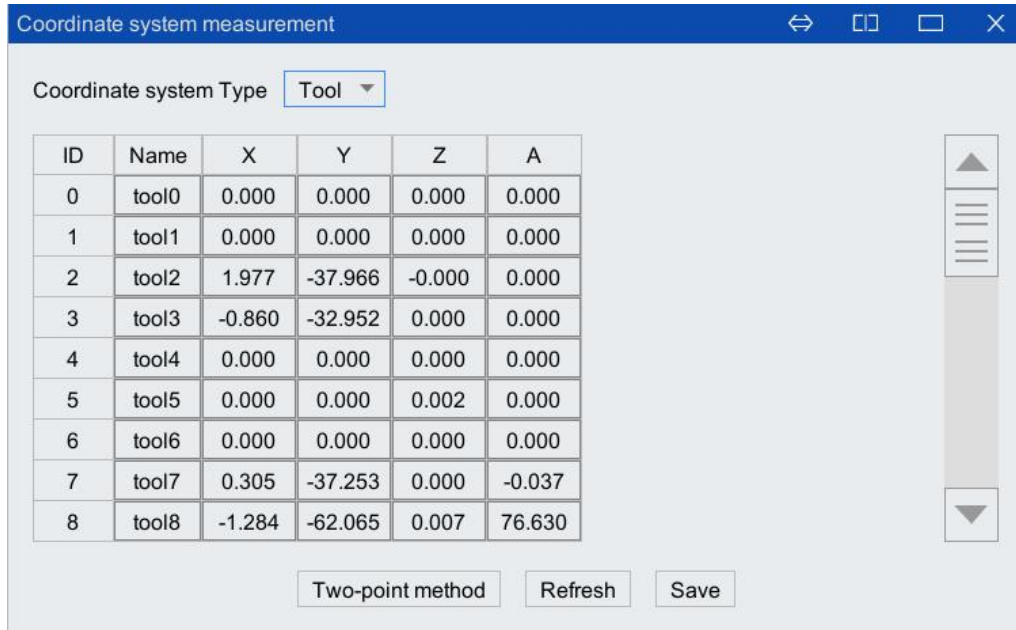

Figure 5-52 Interface of setting tool coordinate system by input method
You can set the tool coordinate system by inputting, as shown in Figure 5-52. The table shows the position of the origin of the tool coordinate system and the posture of the coordinate system.
- Step1. Select "Tool Coordinate System" in "Coordinate System Type", as shown in Figure 5-52.
Step1. Select "Tool Coordinate System" in "Coordinate System Type" shown in Figure 5-52. Assuming that the name of "Tool Coordinate System" to be calibrated is tool0, highlight the line where tool0 is located, click <Two-point Method> button below to enter "Two-point method "calibration interface,as shown in Figure 5-57.